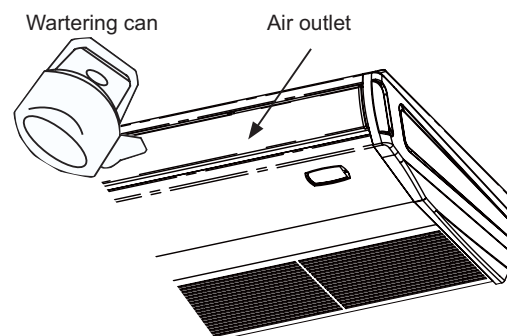

Figure 1-2-12
- ◆ Confirm that smooth drainage is achieved after the piping work. Pour 600 cc of water into the drain pan from the air outlet for confirming drainage. (Refer to Figure 1-2-12).